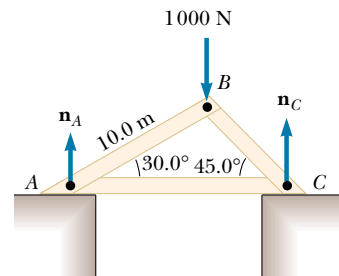

Figure P12.58
58. Figure P12.58 shows a truss that supports a downward force of 1 000 N applied at the point B . The truss has negligible weight. The piers at A and C are smooth. (a) Apply the conditions of equilibrium to prove that $n_A = 366$ N and that $n_C = 634$ N. (b) Show that, because forces act on the light truss only at the hinge joints, each bar of the truss must exert on each hinge pin only a force along the length of that bar—a force of tension or compression. (c) Find the force of tension or compression in each of the three bars.